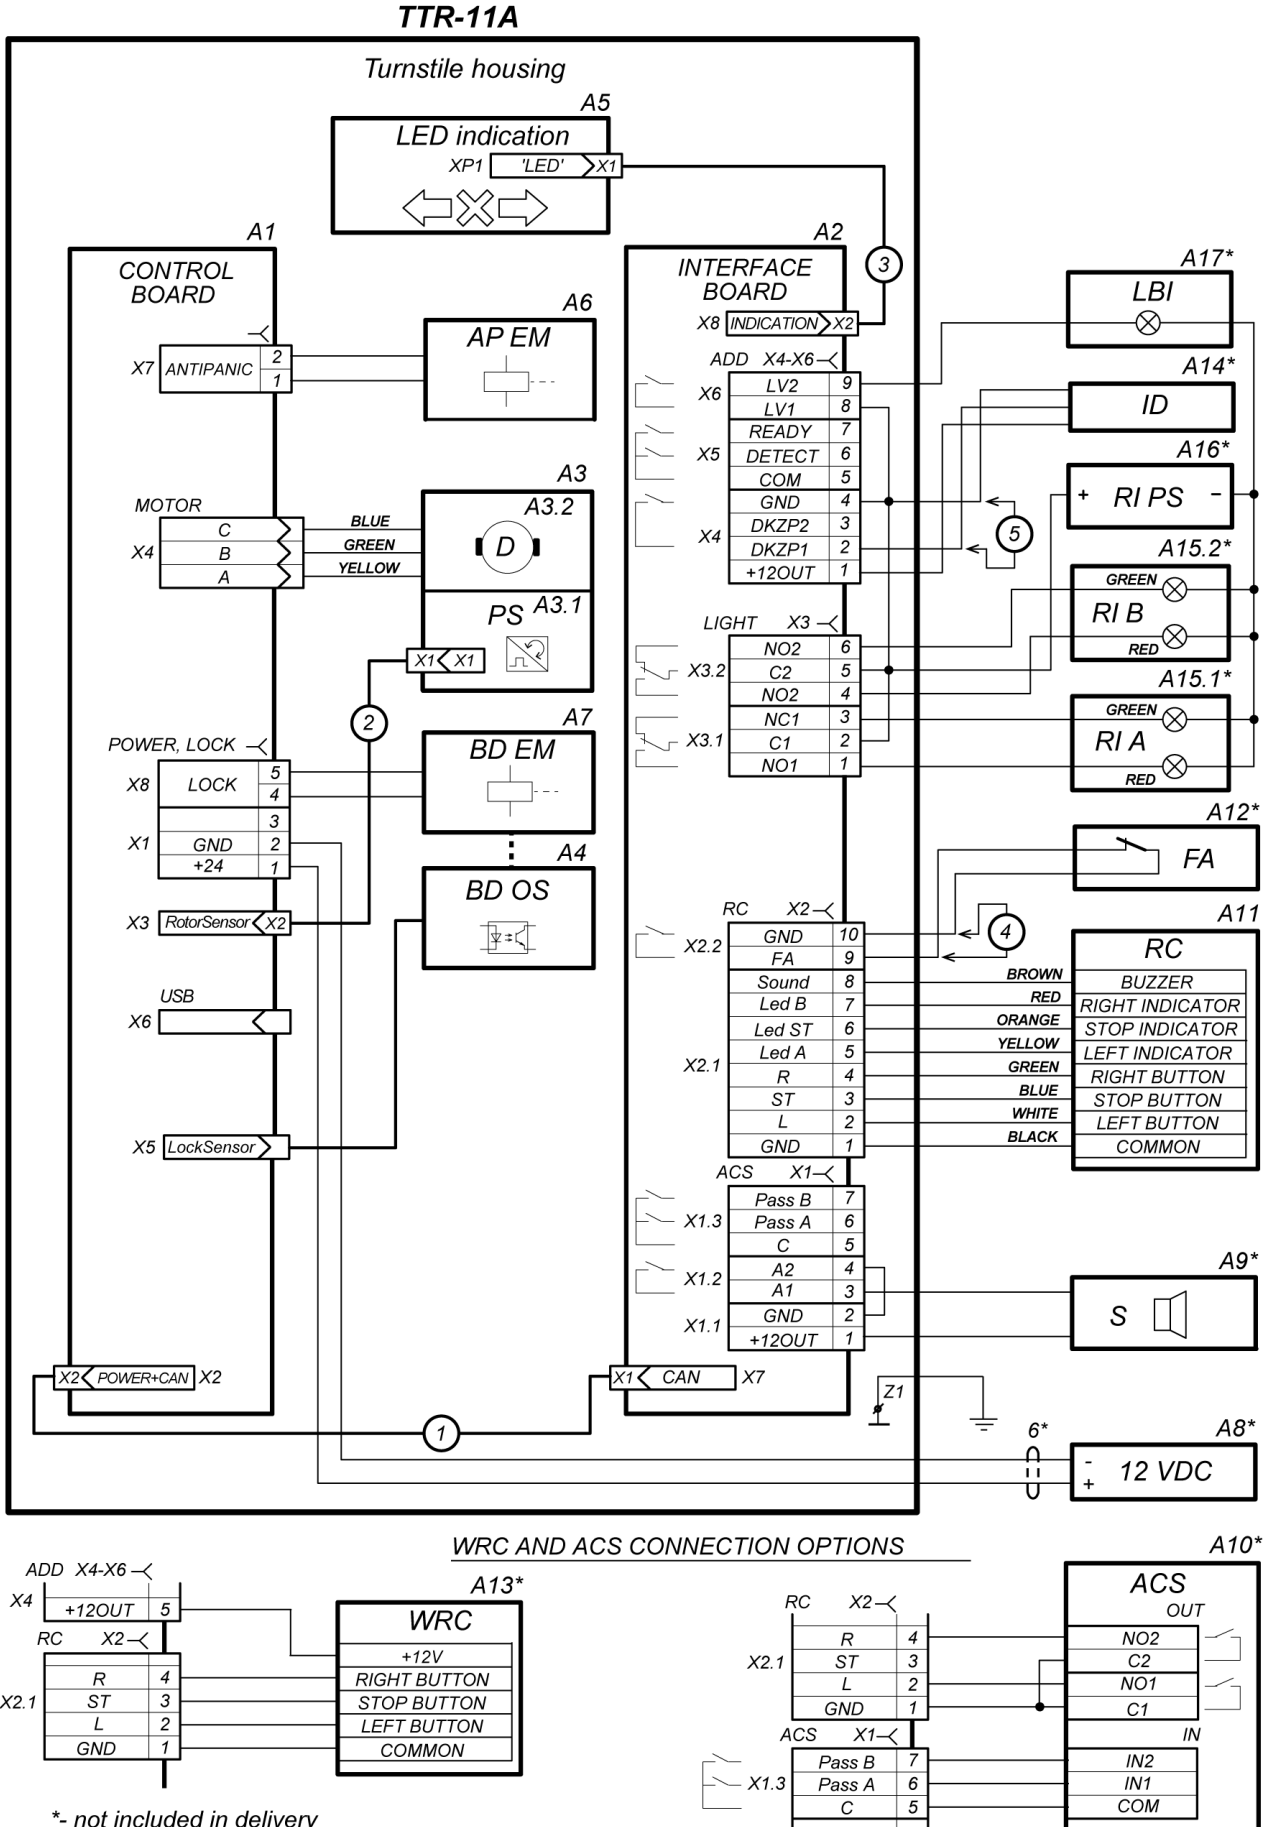

Figure 16. Wiring diagram
The turnstile wiring diagram is given in Fig. 16. The terminal blocks location on the control (11) and interface (12) boards is given in Fig. 6 and 7. The cables used during installation and their maximum
12. Connect the RC-panel (WRC or ACS controller) cable to the **X2** terminal block on the interface board (Fig. 16).